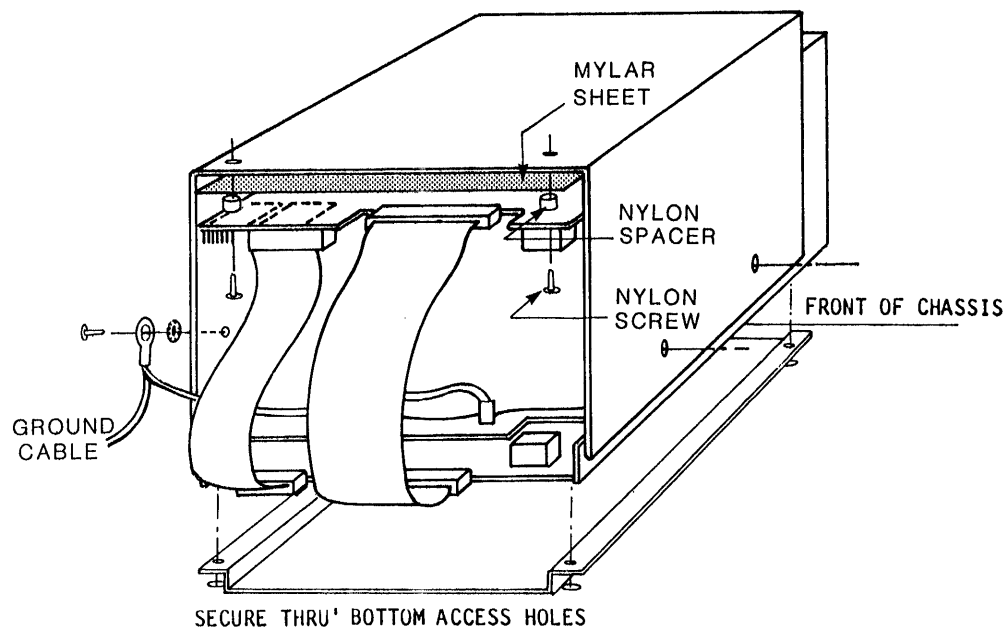

FIGURE 2-6: 5-1/4" WINCHESTER FORMATTER MOUNTING
1. Some winchester drive controllers (e.g., SDC-RLV112) require a formatter module that is secured to the drive mounting bracket. Using Figure 2-6 as a guide, use the following procedure to install the formatter module. If the controller does not require a formatter module (e.g., SDC-RQD11-B) proceed to step 2 below.